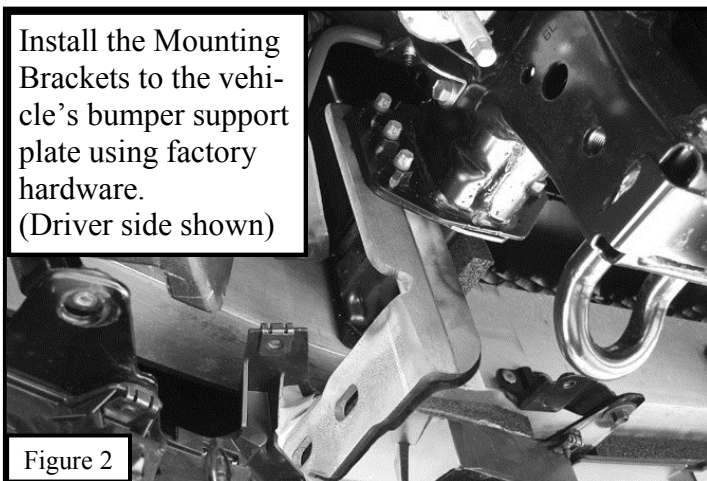

Figure 2
- Starting on the driver's side, remove the three factory bumper mount nuts (located toward the outside of the bumper mount). Take the drivers side frame mounting bracket and insert it into the opening in the back of the bumper cover. **Note:** 2014+ vehicles do not have this opening. Line up the three slots in the mounting bracket with the factory stud locations, secure the mounting bracket to the frame using the factory nuts. Do not fully tighten hardware at this time. See **Figure 2**.